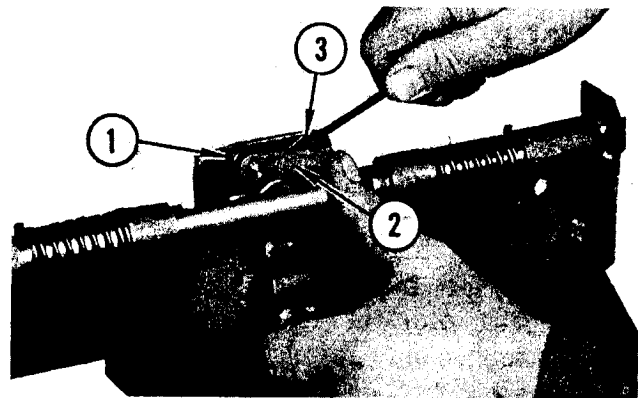

FIGURE 6. LATCH PAWL INSTALLATION
Place latch spring (1) on pin. Short end of spring will hook over top edge of body. Install latch pawl (2) into body. Hook long end of spring (3) over pawl. Install two cut-washers over end of pin and against spring. Secure with cotter pin. Figure 6.